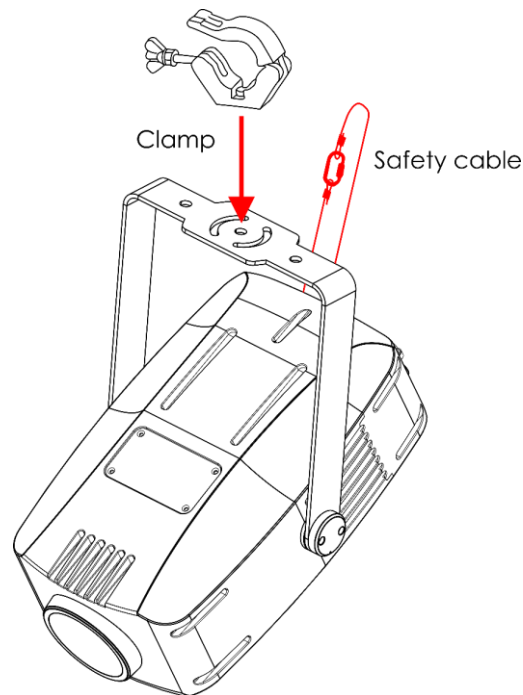

Fig. 07
04) Put the safety cable through the safety eye, as shown in Fig. 07.